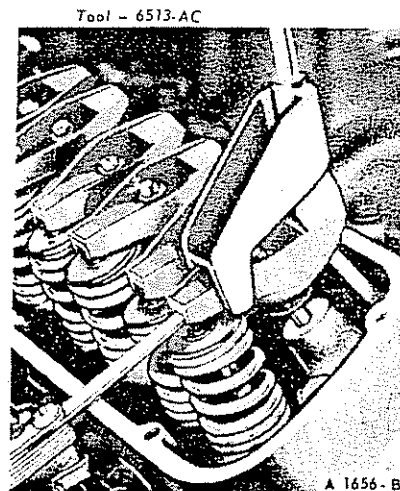

FIG. 35 Checking Valve Clearance Hydraulic Valve Lifters
2. With the crankshaft in the positions designated in Steps 3, 4 and 5, position the hydraulic lifter compressor tool on the rocker arm. Slowly apply pressure to bleed down the hydraulic lifter until the plunger is completely bottomed (Figure 35). Hold the lifter in this position and check the available clearance between the rocker arm and the valve stem tip with a feeler gauge. The feeler gauge width must not exceed 3/8 inch.
pressure to bleed down the hydraulic lifter until the plunger is completely bottomed (Figure 35). Hold the lifter in the fully collapsed position and insert a low-limit (see Specifications) clearance gauge between the valve stem and the rocker arm of the valve being checked. If the clearance is less than specified, install a 0.060 inch longer push rod. If the gauge enters, the old push rod may be used. If a high-limit gauge enters, the operating range of the lifter is excessive which indicates severe wear has occurred at the push rod ends, rocker arm, or valve stem. In this case, it will be necessary to determine the area of discrepancy and the worn part(s) should be replaced. If all the valve train components except the push rod are within limits, install a 0.060 inch longer push rod.